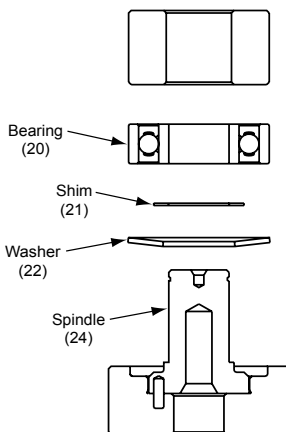

Figure 3
1. Place the (MPA0203) T-3A Spindle Bearing Pressing Tool Base onto a flat, clean surface of a small hand press or equivalent with the spindle pocket facing upward. Place the (24) Spindle into the spindle pocket with the shaft facing upward. See Figure 3.
2. Place the (22) Washer on the (24) Spindle shaft with the curve of washer facing out so that the outside diameter of the washer will contact the outer diameter of the (20) Bearing. Lay the (21) Shim on the shoulder of the Spindle. Place the Bearing (one seal) on the Spindle with the seal side toward the Washer. Note: Make sure that both the inner and outer races of the Bearings are supported by the Bearing Press Tool when pressing them into place. Press the Bearing onto the shoulder of Spindle using the (MPA0204) T-3B Spindle Bearing Pressing Tool Top as shown in Figure 3.